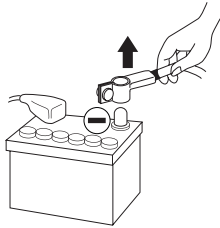

fig. 1
- **Before beginning installation, disconnect the negative terminal of the battery to avoid any risk of injury, fire or material damage (fig. 1).**
- 2 - Disconnect the battery's negative wire before installation (*fig.1*).